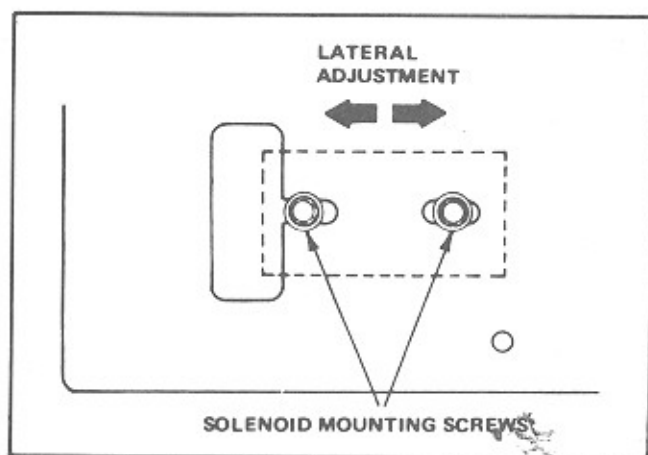

Figure 3-10. Lateral Adjustment
2. Loosen the solenoid mounting screws and with the roll pin against the plunger, position the solenoid so that there is a .015 to .025 inch gap between the sprag lever and the highest point on the sprag wheel (See Figure 3-10.).